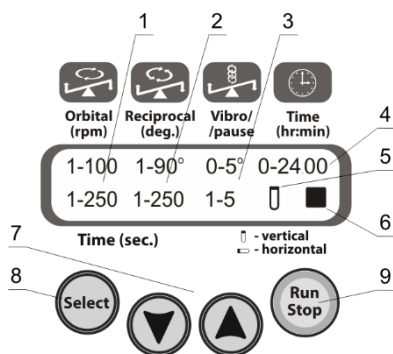

Figure 2. Multi Bio RS-24
- 5.2.4. Press the **Run Stop** key (fig. 2/9 or 3/9) to start the program.
- 5.2.5. The platform motion begins and the corresponding indication is shown on the display: icon ► (fig. 2/6 or 3/6), the changing time values of the current movement type in seconds (fig. 2/1-2/3 or 3/1-3/3, lower line) and the operation timer in hours and minutes (fig. 2/4 or 3/4).
- 5.2.6. If the operation timer is not set and display shows 0:00 (fig. 2/4 or 3/4), pressing the **Run Stop** key causes continuous operation of the rotator until the **Run Stop** key is pressed again.
- 5.2.7. If the operation timer is set, after timer expires, the platform movement stops, display shows flashing indication ■ (fig. 2/6 or 3/6) and the unit sounds a signal about the end of operation. Press the **Run Stop** key to stop the signal.
- 6.1. Press the **Select** key (fig. 2/8 or 3/8) to choose the parameter to change. The active parameter is flashing.
- 6.2. Use the ▼ and ▲ keys (fig. 2/7 or 3/7) to set the necessary value. If the key is pressed for more than 2 s, the numerical values change quicker.
- 6.4. The countdown timer (fig. 2/4 or 3/4) is used to control the operation time. The timer can be set for the period from 1 min to 24 hours.
When the tube icon (fig. 2/5 or 3/5) is in vertical position, reciprocal rotation starts from tubes in vertical position (platform in horizontal position).